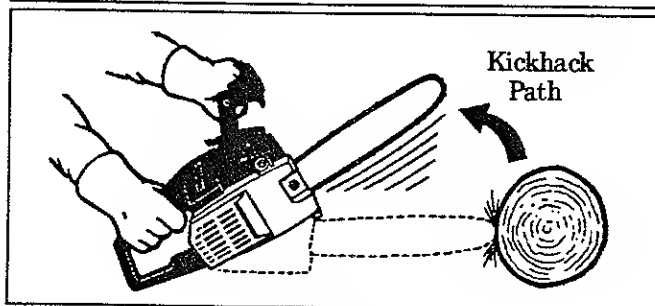

Figure 1
2. **Never let the moving chain contact any object at the tip of the guide bar.** Figure 1.